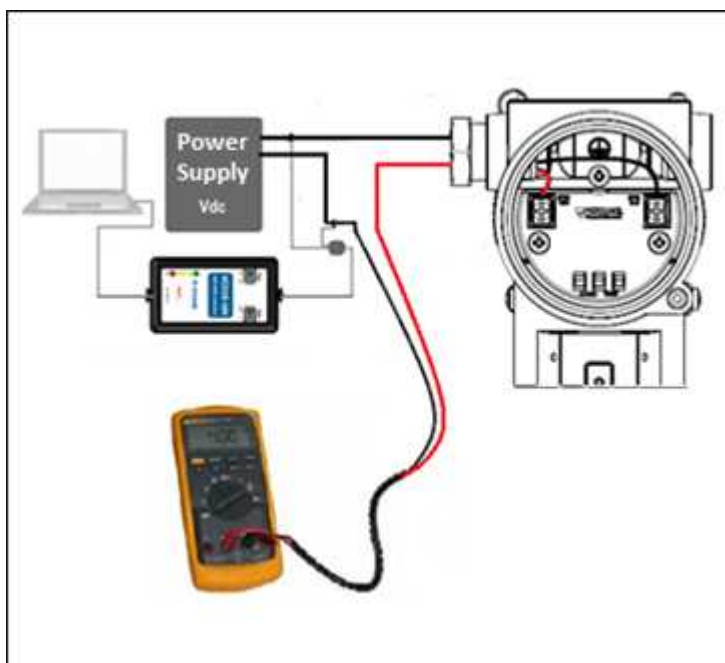

Figure 3.12 –Mounting for current trim on VPT10-H.
Trim – In this directory user can adjust the pressure sensor (calibration of lower and upper points, zero point), the output current (4 mA and 20 mA) and the temperature sensor. Figure 3.12 shows the connection of the multimeter with the transmitter for current trim. See further details in item 3.7, below.
After generating the fixed current through the transmitter, with an ammeter connected in series (see figure 3.12), user can check the actual current generated and send it by means of HART® commands to the equipment, which will perform the internal calibration and generate the corrected current, allowing user to verify the new current in the connected ammeter, automatically. This process can be repeated as many times as user deems necessary, until current is perfectly calibrated at both ends (4 mA and 20 mA).